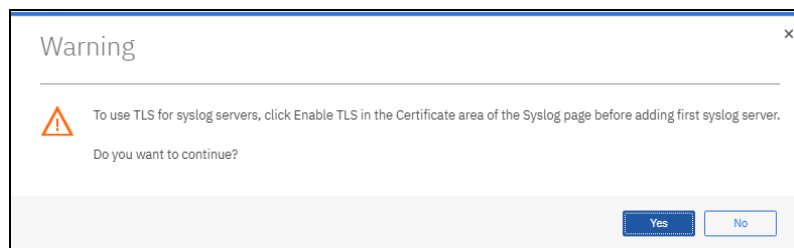

Figure 9-28 Warning to enable TLS
2. On the Notifications window, select **Add Syslog Server**. You receive a warning to enable TLS first before adding any syslog server, as shown in Figure 9-28.